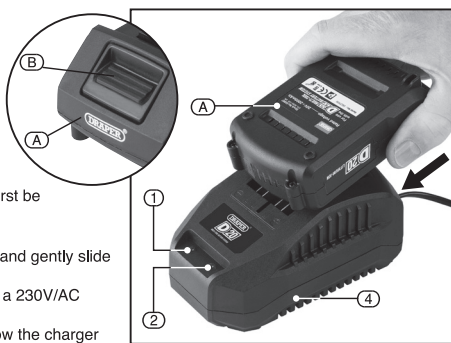

FIG.1
7.1 BATTERY PACK CHARGING – FIGS. 1 – 2
- Press the battery release button (B) and gently slide the battery pack off (Fig.1).
- Plug the battery charger (4) unit into a 230V/AC 13amp three pin supply socket.
- The red LED (1) will illuminate to show the charger has power.
– After a few seconds delay, the red LED (1) will flash to show that charging has begun, then illuminate solid red.
– Whilst the battery is charging, the green LED (2) will flash, (the red LED will go from flashing to constant red).